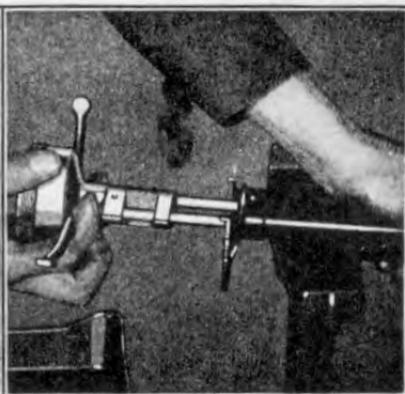

Fig. 391
- 755 Steering gear internal gear case and lead and throttle rods can now be withdrawn from steering gear tubing (See Fig. 391).
- 760 Examine lead and throttle rods for cracks at lever pin holes. If O. K. insert lead and throttle rods into guides in gear case, bending the ends of the guides tightly against rods; gear case and rods are then inserted into steering gear tubing as shown in Fig. 391. (If a new gear case is installed it will be necessary to drill holes into which the two internal gear case pins are inserted.)